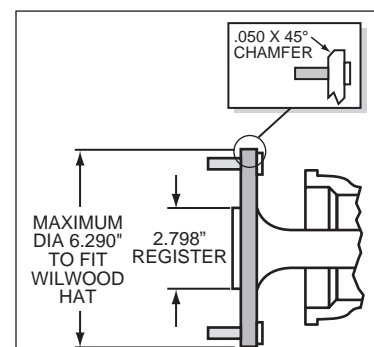

Figure 3. Axle Flange Maximum Dimension
- Axle center register diameter is 2.80", Figure 3. This kit uses Wilwood's removable center register adapters. Rotors can either be centered on the axle register, i.e. *register-centric* or centered on the wheel studs, i.e. *stud-centric*. Due to variations in wheel stud final diameters, *register-centric* centering can be a more accurate method of centering the rotor to the axle. Wilwood offers various diameter adapters for purchase in addition to the ones supplied in this kit, see Table 1.
- Maximum axle flange diameter must be no larger than 6.29" with a .050" x 45° chamfer (see Figure 3).